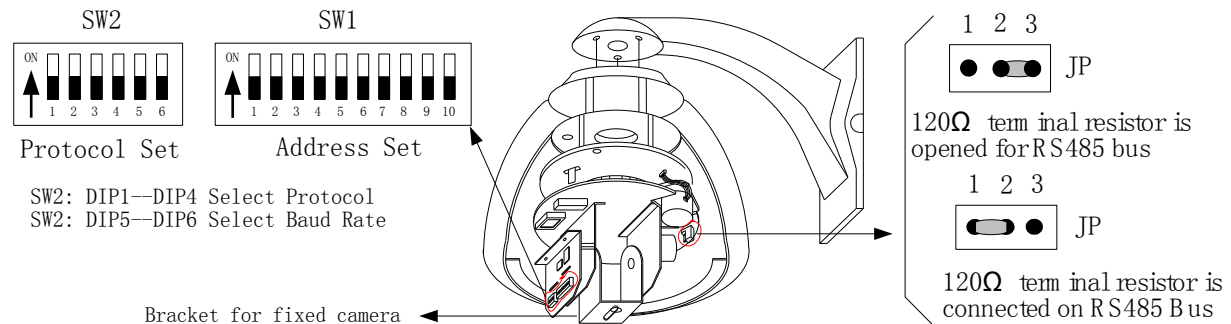

Figure 2
**2. Setup of Coding Switch of Dome Camera.** As shown in Figure 2, SW1 is used to set address of the dome camera from 1 – 1023. The ID-CODE from DIP-10 to DIP-1 are equivalent to a 10-bit binary digit. DIP-10 is MSB while DIP-1 is LSB. The state “ON” of each bit means 1 while “OFF” means 0. Following table shows states of coding switches of some addresses.
- 3. Setup of the Protocol and the Default Baud Rate.** As shown in Figure 2, SW2 is used to set the protocol of communication and the baud rate used by the dome camera. DIP-4 to DIP-1 of SW2 is used to select protocols and 16 different protocols can be selected in maximum. Following table shows states of coding switches of protocols selected by the dome camera
4. **Setup of the Baud Rate of Communication.** As shown in Figure 2, SW2 is used to set the protocol of communication and the baud rate used by the dome camera. DIP-6 and DIP-5 of SW2 are used to select the baud rate of communication and 4 different baud rates can be selected in maximum. If the controller adopts non-standard baud rate, you can adjust it to be identical with that of the controller as per the following table.
5. **Selection of the Terminal Resistor of the Dome Camera.** As shown in Figure 2, JP is the select switch of the 120 Ω terminal resistor on the bus RS485, on which only one terminal resistor of the dome camera at the farthest end can be connected, while the terminal resistors of other devices should be opened.
4. Based on the ID-CODE shown as Figure 2, set up the protocol used by the camera and the baud rate as per the state according to Table 1. Check the address of the camera to see if it is matched with that you need. If not, set the address of the dome camera at corresponding position as per Table 1.